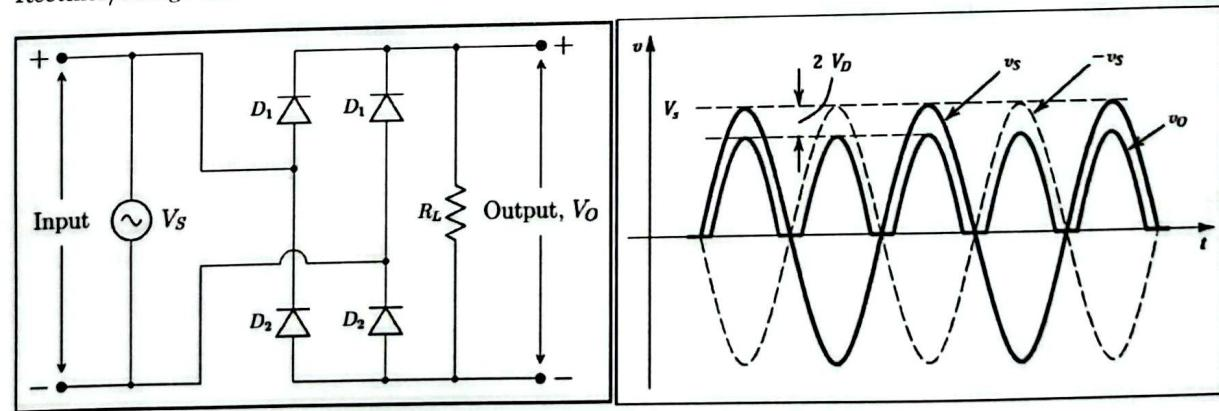

Figure 5: **Full-Wave Rectifier Circuit without Capacitor and the Waveform of Input and Output**
1. Construct circuit of **Figure 5**. Observe  $V_S$  and  $V_O$  separately on the oscilloscope [i.e. don't use both channels simultaneously, use only one channel].